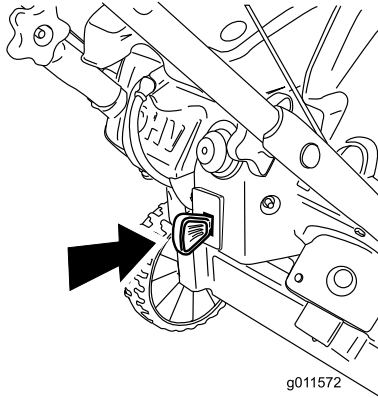

Figure 17
1. Push the ignition key fully inward to the On position (Figure 17).